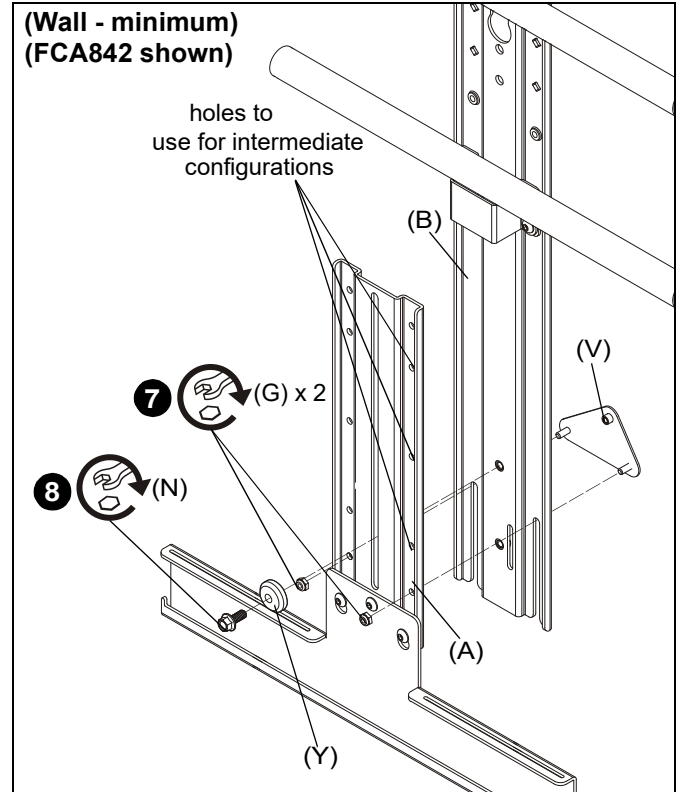

Figure 6
- (For **minimum/intermediate extension**) Use two #10-24 lock nuts (G) to secure upright bracket (A) to main bracket (B) and adapter plate (V). (See Figure 6)
- (For **minimum/intermediate extension**) Use 1/4-20 x 5/8" hex head flange bolt (N) and center washer (Y) to secure upright bracket (A) to main bracket (B). (See Figure 6)